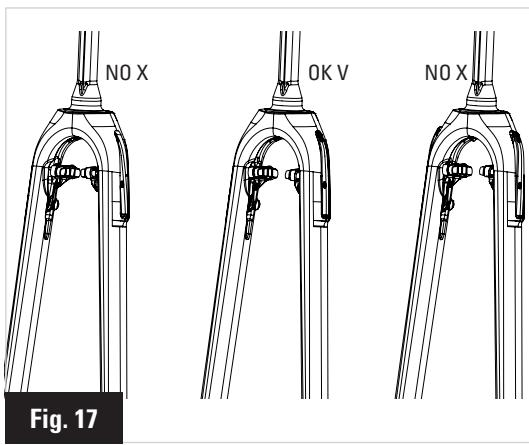

Fig. 17
- 5- Position a second brake cable housing ferrule (D) (if your ferrule has a liner, cut it to leave only 2-3 mm), and push the assembly into the fork pivot.
- 6- Take the plastic tube out of the cable pipe (11).
- 8- Refit the cable pipe and the cable housing (B) until they stop.
- 9- Engage the cable pipe into the cable pipe holder (10).
- 10- Feed the cable into the cable guide (3).
- 11- Hold the cable using the cable clamp (2) so that the two outside levers (4) equipped with their caps (1) are in line with the fork (Fig. 17).